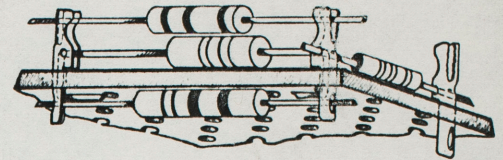

FIG 1
2. Compactly Designed - Yet Hold Up to Six Leads: The T28 looks neat; yet, using upper and lower portions, as many as six leads may be connected to it in the three possible directions. See Fig. 1. Notice the serrations in the main slot which grip small component leads, including transistor leads.